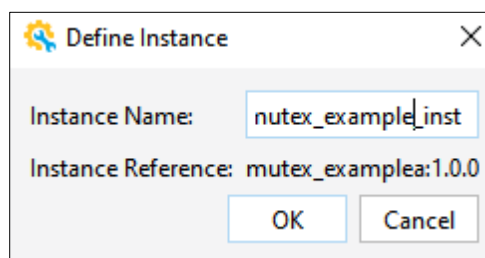

Figure 3.4. Specifying Instance Name
- Confirm or modify the module instance name. Click **OK** (Figure 3.4).